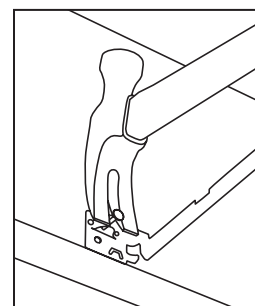

Figure 5
**Relocating Fixture** – Nail can be removed with hammer claw to allow easy repositioning of fixture without damaging bar hanger or nail (Fig. 5).